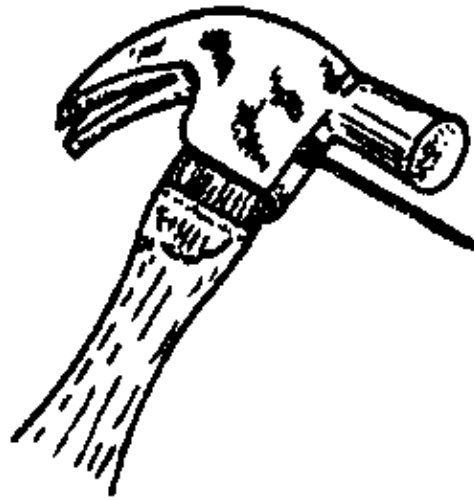

Fig. 5
– To drive nails when you have only one hand free, hold the nail on the hammer as shown in Fig. 5 and start it in the wood with one sharp blow.